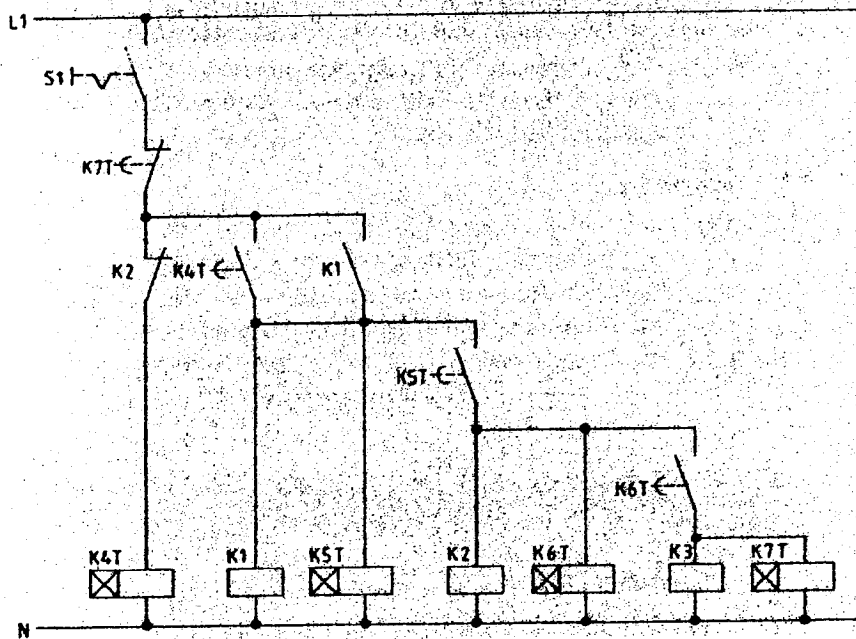

figure 3
c) Replace the control circuit (used for a running light) as depicted in fig 3 using a PLC. Draw the ladder program needed to accomplish this. (7 marks)